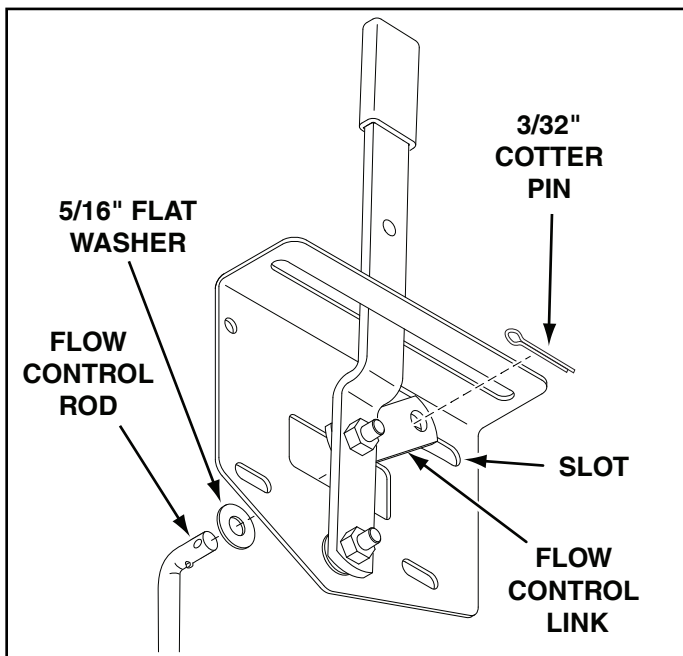

FIGURE 9
18. Place a 5/16" flat washer onto the end of the flow control rod. Insert the end of the rod through the slot in the flow control mounting bracket and through the hole in the flow control link. Secure with a 3/32" x 3/4" cotter pin. See figure 9.